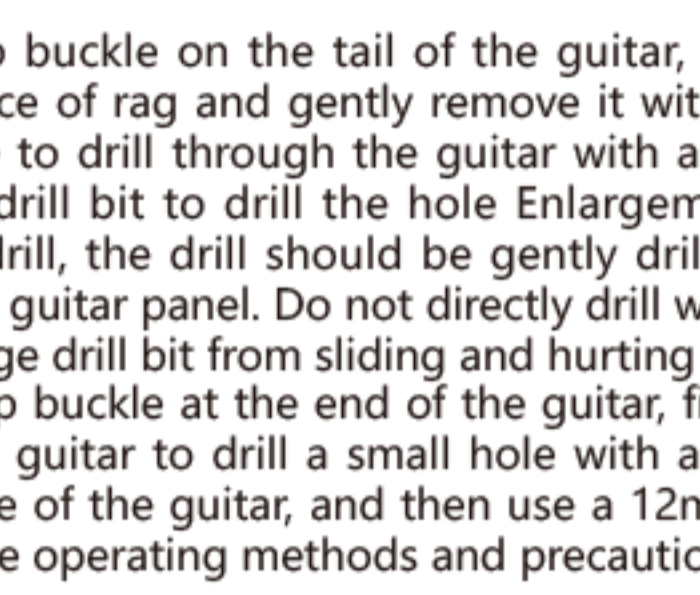

Fig.6
5. After the lower chord is ground, put it aside, clean the dust in the groove, readjust the position of the pickup rod in the groove of the piano code, so that the two ends of the piezoelectric pickup rod are evenly distributed in the groove of the piano code. Then flatten the pickup rod, fix the pickup rod with tape, and wait for the next step to install the pickup. The schematic diagram of the tape fixing of the pickup rod is shown in Figure 6.